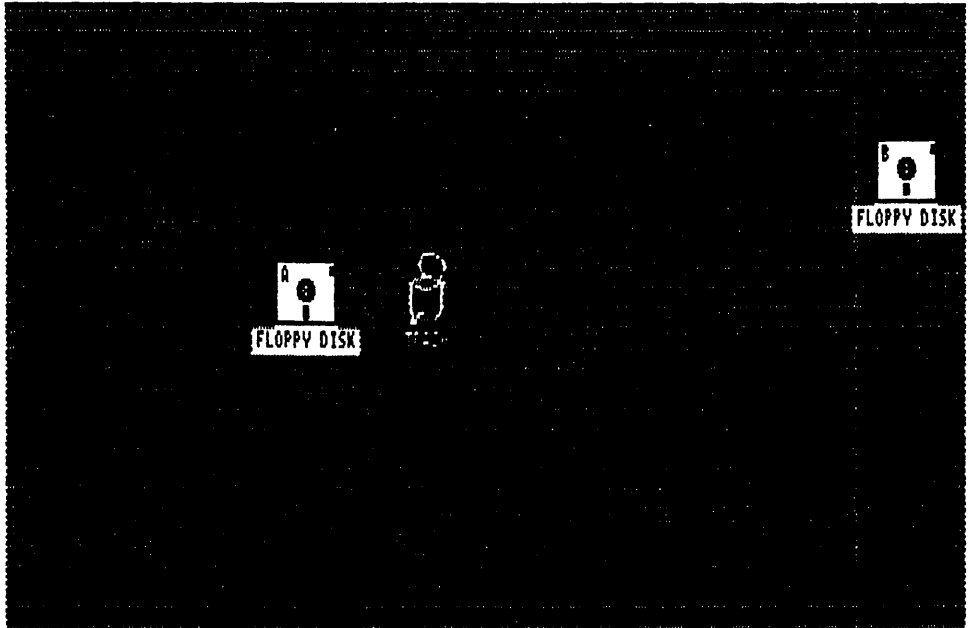

Fig. 1-3. Both the floppy disk drive A: icon and the Trash icon have been dragged into the center of the desktop.
- Drag the trash can icon next to the new position for the floppy disk icon (Fig. 1-3).